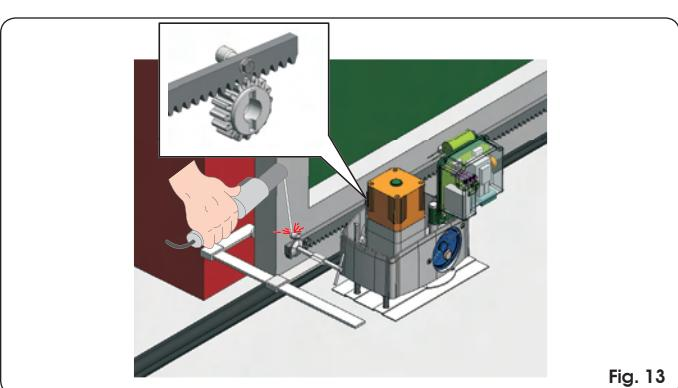

Fig. 13
- Lay the first piece of rack level on the pinion and weld the threaded pawl on the gate as shown in Fig. 13.